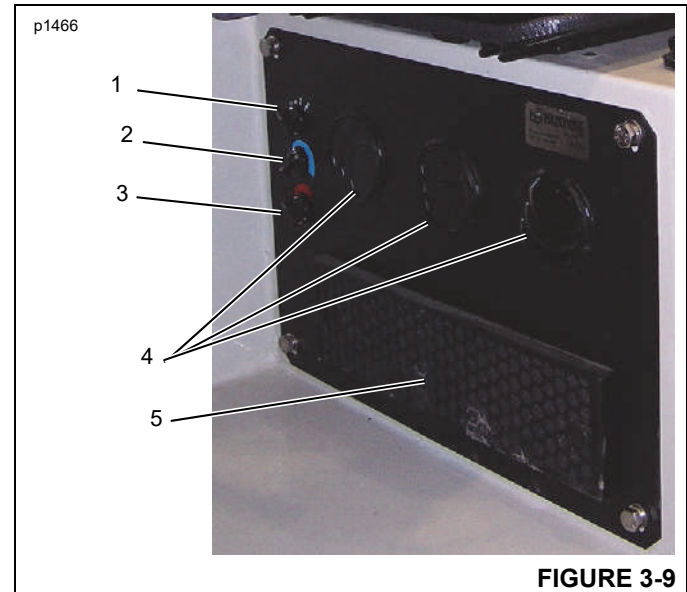

FIGURE 3-9
The Fan Switch (1) (Figure 3-9) is a four-position switch which controls the speed of the fan.